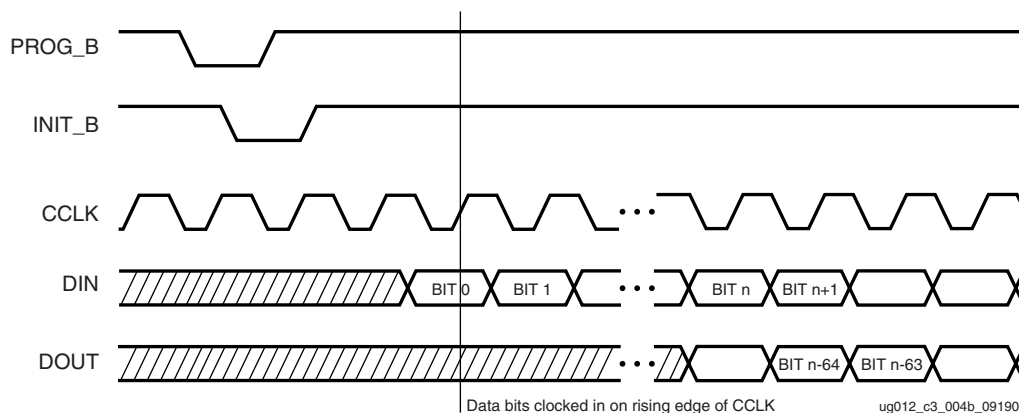

Figure 3-13: Serial Configuration Cloning Sequence
1. For Slave configurations, a free running CCLK can be used, as shown in Figure 3-13.